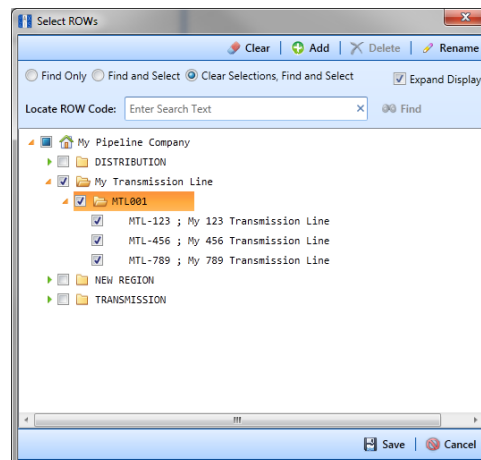

Figure 9-12. Select ROWs
- 1 Select one or more pipeline segments in the *Select ROWs* window. Choose pipeline segment(s) with facilities you want to include in the Bridge definition. Click  **Save** to close the window (Figure 9-12).